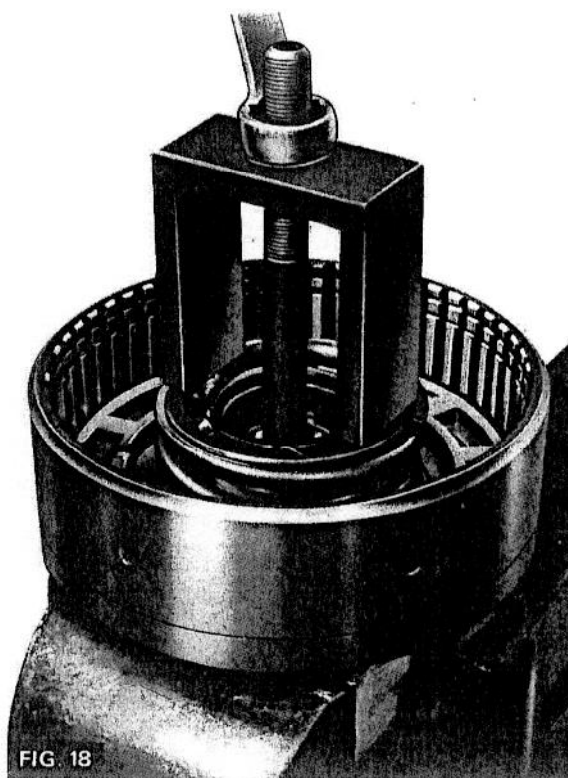

FIG. 18
- (a) Fig. 18. Compress the spring using tool MF 244.